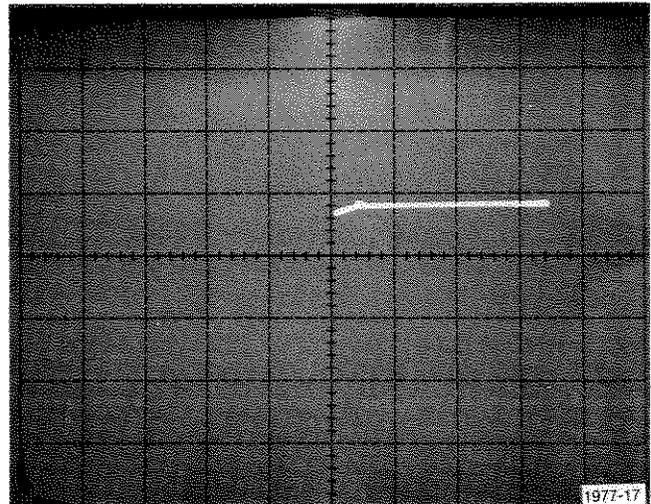

Fig. B-6. Display of + supply current.
- Press the 577 Erase button. The display that returns should resemble Fig. B-6. The display shown represents approximately 4 mA of supply current.